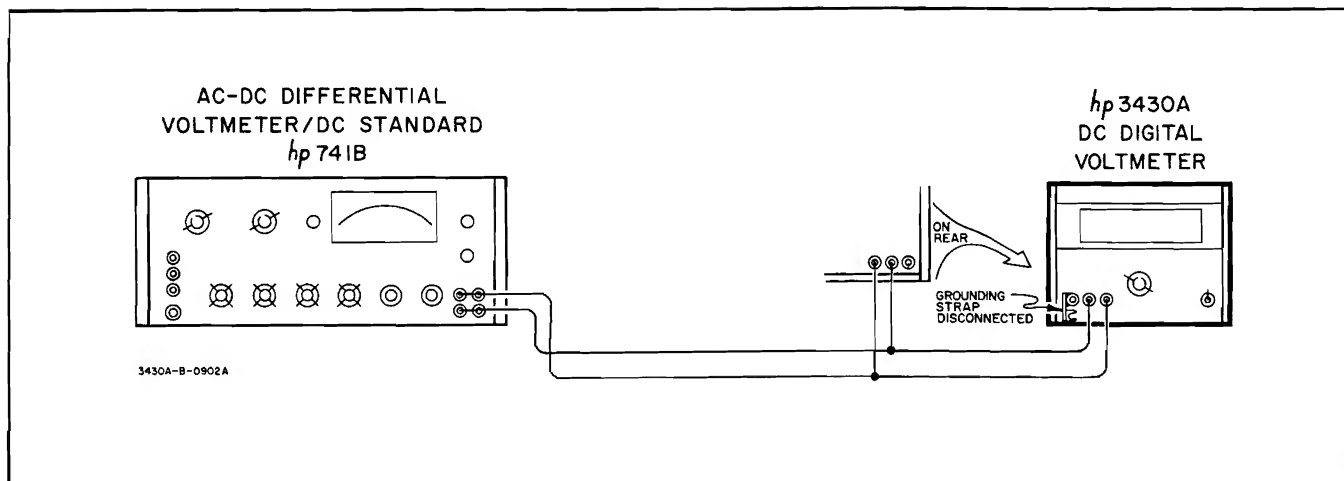

Figure 5-6. Ratio Accuracy Check
- Connect dc standard voltage to the 3430A front panel INPUT and rear panel REF INPUT. (See Figure 5-6.) This places the rear panel REF INPUT and front panel INPUT voltages in parallel, so the input ratio is 1.000.